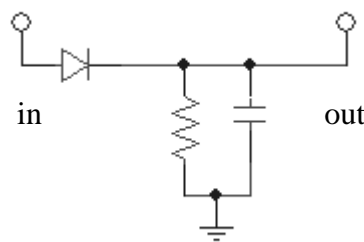

Fig. 1: Envelope Detector
Design the RC portion in **Fig. 1**. The Resistor Value Should be at least 1Kohm, but no more than 200Kohm. Use the following equation to determine the value of R.
1. Build the envelope detector in **Fig. 1**. Use a Germanium diode and the RC values found in the Pre-lab.